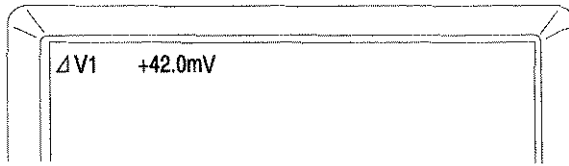

Figure 9: Typical ΔV Readout
5. Read the measurement value on the screen. Typical measurement readouts are shown in Figures 9 and 10. The measurement values are automatically controlled by the VOLTS/DIV and SEC/DIV control settings.